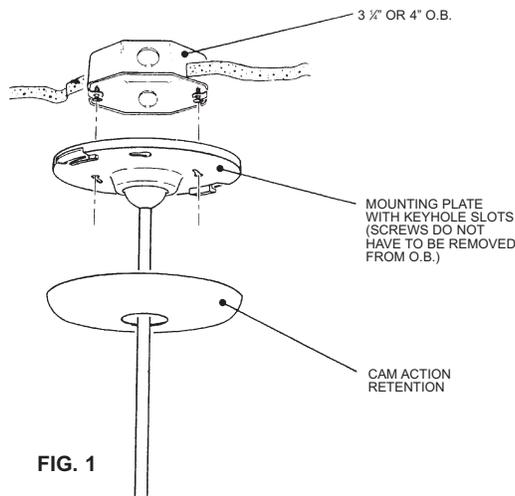

FIG. 1
3. Twist canopy cover in place. (Fig. 1)